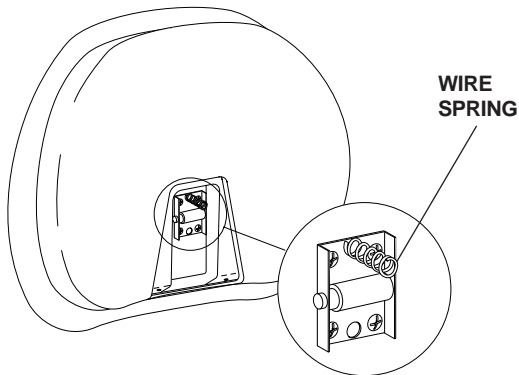
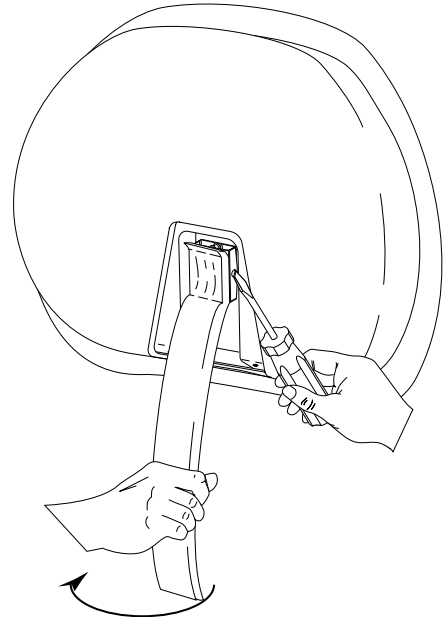

FIGURE 2
FIGURE 4
- Make sure the wire spring is still attached to the spring retaining guide on the spring pin assembly (see Figures 2 and 3).
Install the contoured backrest spring assembly with the wire spring in the top-most position (see Figure 2).
- Align the backrest cover and spring assembly mounting holes with the backrest upholstery (see Figures 2 and 3).
- Loosely install the four (4) screws in the assembly. Center the back cover and pin mounting assembly on the upholstery, then tighten the screws.
- Place the backrest upright over the spring pin assembly until one end of the spring hinge pin pops in place. As shown in Figure 4, use a flat-blade screwdriver to push the opposite end of the hinge pin in while gently pressing down on the backrest upright. When aligned, the other side of the pin will pop into the remaining backrest upright hole.